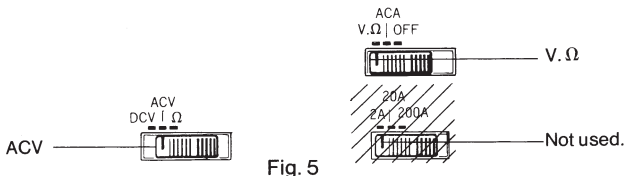

Fig. 5
- (1) Set the function selector switches as shown in Fig. 5.